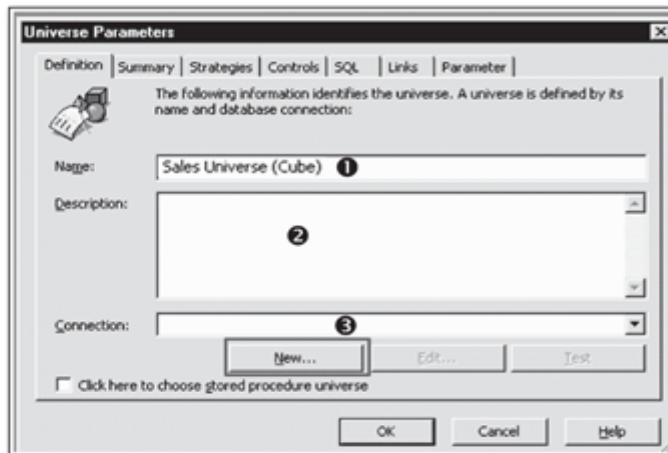

Figure 13.5 Supply Universe Parameters and Create New Connection
3. Define the basic universe parameters, such as Name (which, in our example, is Sales Universe — ❶ of Figure 13.5). If you want to enter additional information related to the universe, you can enter that in the Description field (❷). Next, fill the Connection field (❸) for the universe you're going to create. To do this, either select one of the existing connections from the dropdown, or create a new connection. To create a new connection, click on the New button.